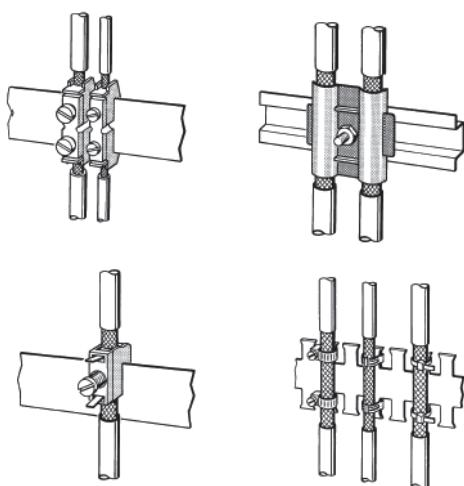

Fig. 6: Securing shielded lines using cable clamps and tube clips (schematic diagram)
- ▶ The clamps must fully enclose the shield and make good contact (see Fig. 6).